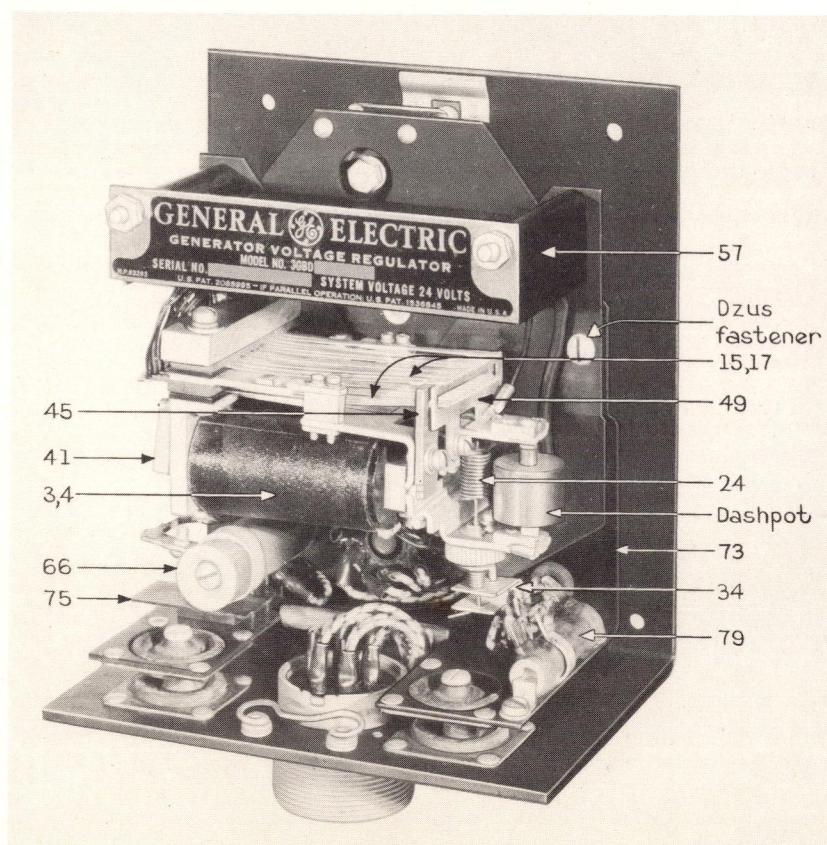
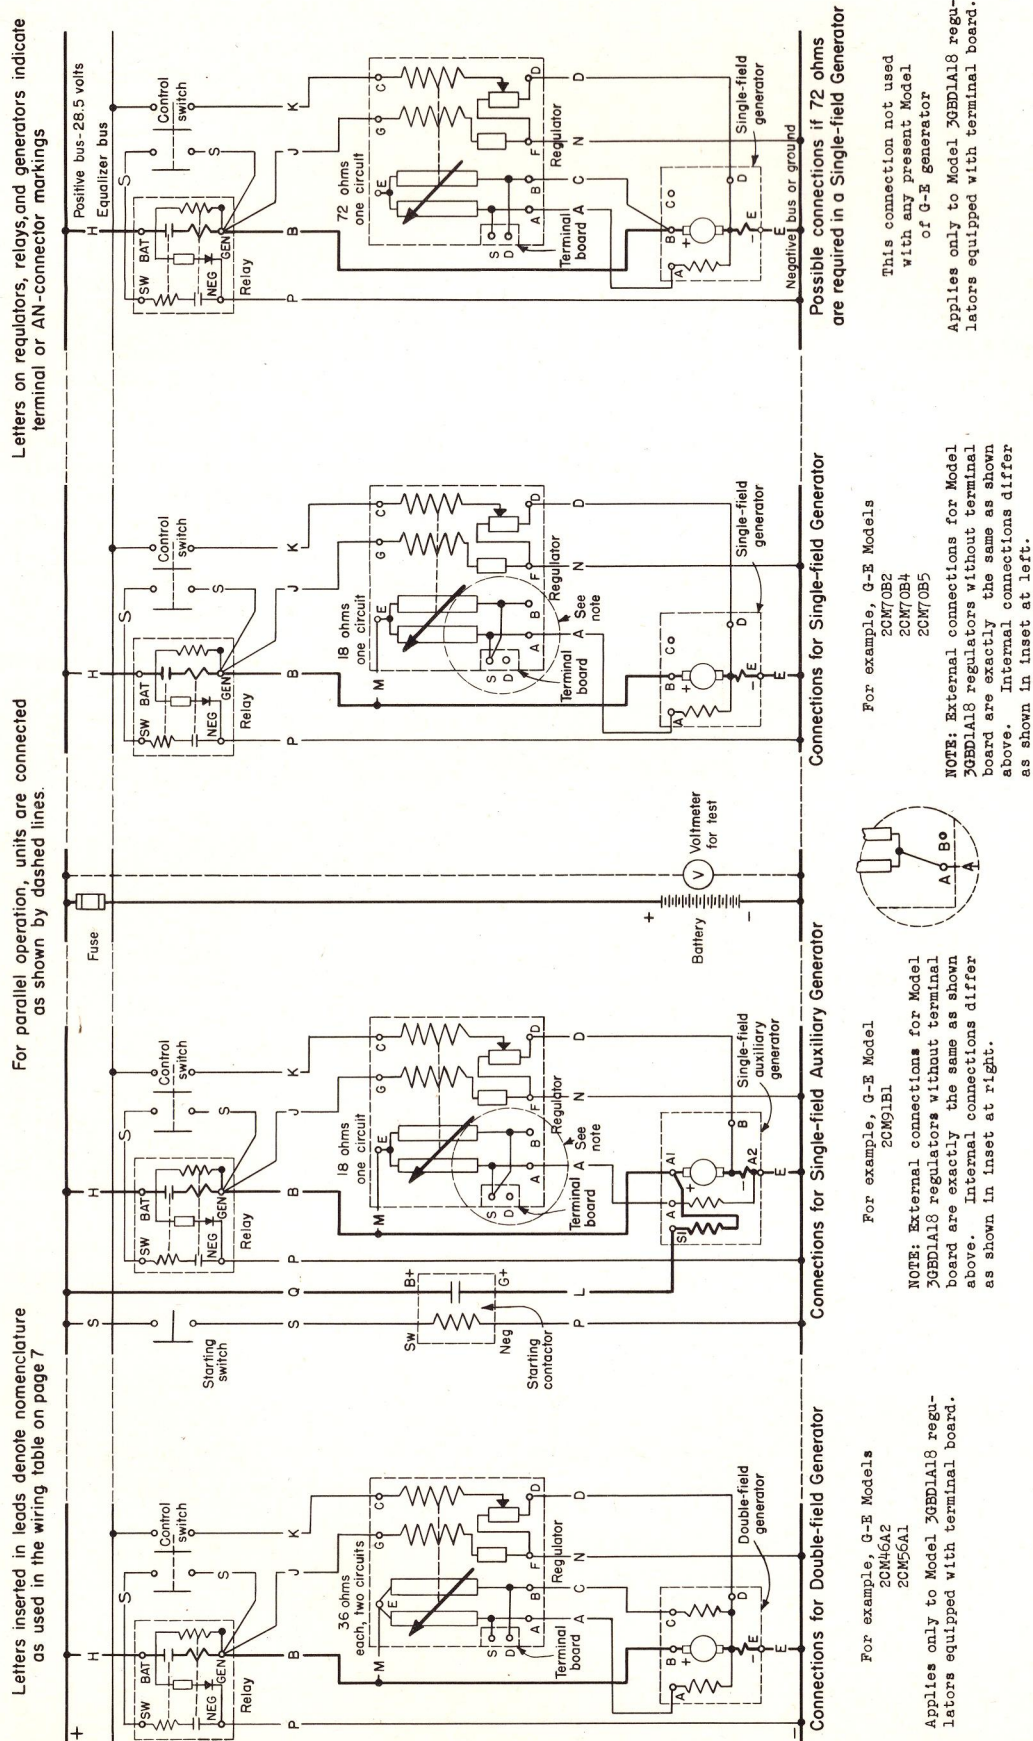
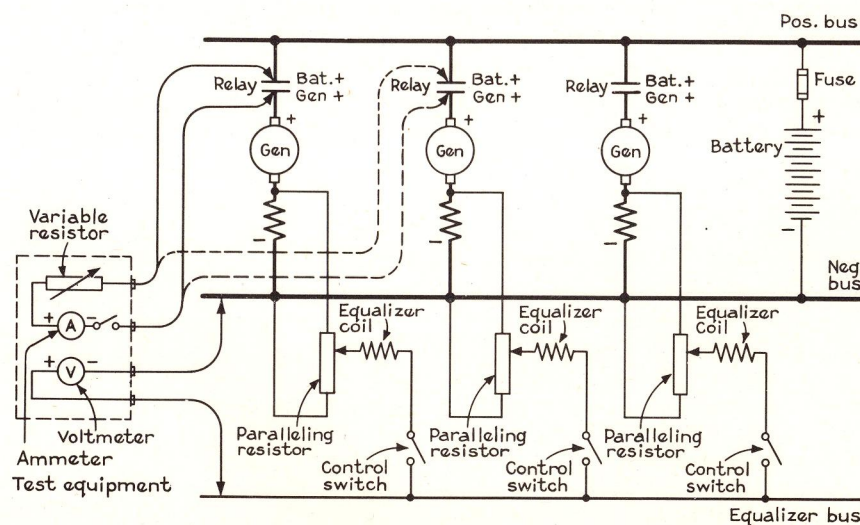

Fig. 2. Generator-voltage regulator, Model 3GBD1A18, cover removed
Fig. 4. Typical external connections of Model 3GBD1A18 regulators
Fig. 5. Setting of paralleling resistors
NOTE: At the present time, there are two variations of Model 3GBD1A18 regulator in the field, which may be distinguished from one another by the presence or absence of the terminal board (Fig. 2: Ref. 75). The original model, equipped with the terminal board, is the regulator pictured in Fig. 2. More recent models have omitted the terminal board and various wires, insulating tubings, and terminals originally associated with it. The assembly of the crash stud has also been changed and a wing-nut Dzus fastener has been substituted for the original screwdriver type Dzus fastener shown in Fig. 2. These variations are noted essentially in the external connection diagram, Fig. 4, the internal connection diagrams, Fig. 8, the assembly diagram, Fig. 11, and the Parts Catalog. It will be seen that the removal of the terminal board prohibits the use of more recent Model 3GBD1A18 regulators with double-field generators. However, the original Model 3GBD1A18 regulators, which are equipped with the terminal board, may be used with either double-field (5-amp) or single-field (8-amp) generators as described later in this handbook.
Voltage control is achieved by the use of a series of resistance steps in the regulating resistor (Fig. 2: Ref. 57) which are introduced into or shorted out from the generator-field circuit (or circuits) by a set of 24 contact fingers (15, 17) and a silver contact bar (49). These contact fingers are operated by an armature (41) in the magnetic circuit, which is energized by a pair of coils (3, 4) connected, through an adjustable resistor (66), across the voltage to be regulated. A bimetal temperature compensator (34) functions to compensate for changes in voltage due to ambient temperature variations of from -40 to +50 C.
The regulating resistor (57) in the regulator is arranged in two 36-ohm sections. Model 3GBD1A18 regulators which are equipped with the terminal board (75) are wired so that, by changing a terminal on the terminal board (75), it is possible to use the regulator on either double-field (5-amp) or single-field (8-amp) generators without any change in external wiring. In the case of the single-field connection, the two resistance sections are connected in parallel, with a total of 18 ohms. It is also possible to obtain 72 ohms in a single circuit, by making the proper changes in the external wiring. (See Fig. 4.)
The regulator has a detachable regulator unit. By releasing the two Dzus fasteners (Fig. 2), the regulator unit can be removed from the sub-base (73) without disturbing the remaining portion of the regulator. In a majority of cases, only this removable portion will need to be replaced. This can easily be done without removing the paralleling resistors and their connections from the circuit, avoiding the necessity of resetting the paralleling resistors when a new regulator unit is installed. This is true only if neither the airplane wiring nor the generators are changed.
After mounting, connections should be made as per the wiring diagram for the particular installation under consideration. Fig. 5 is a schematic diagram showing connections of the regulator with various types of generators. Particular attention should be given to make sure that polarities are as indicated. If the regulator is equipped with a terminal board (Fig. 2: Ref. 75), be sure that the terminal B on the terminal board is in the right position for the generator being used. In general, for single-field generators connect B to S; for double-field generators connect B to D.
The lead resistances should be as follows (see Fig. 4).
Referring to Fig. 5, proceed as follows:
2. Set the slider on the paralleling resistor (79) in the regulator of this first generator at approximately 3/4 of the way from the end connected to terminal F of the regulator. (This is the back end of the resistor.)
3. Connect test equipment (consisting of the variable resistor,) switch and ammeter in series across terminals BAT and GEN of the relay associated with the generator and regulator being set, as shown in Fig. 5. Also connect the voltmeter as shown.
5. Open the control switch of this generator and close the one on the next generator to be set. Connect the test current leads to the relay of this generator as shown in dashed lines in Fig. 5.
6. With a current of 10 per cent of rating of this generator, adjust the slider on the paralleling resistor (79) until the voltmeter reading is the same as the voltmeter reading recorded in step 4.
240 hours: Examine the contact surfaces of the silver contact bar (Fig. 2: Ref. 49). If the bar is pitted or burned, remove it from the regulator. Place it in a suitable filing fixture and dress up the contact edges, being careful to maintain constant the spacing between edges. Reassemble the bar on the regulator and adjust it to meet the requirements given in the following section. When proper adjustment can no longer be obtained after dressing up the contact bar, a new bar should be installed.
Connect the regulator as shown in Fig. 4.
Bring the generator to a regulating speed and adjust the voltage-adjusting spring until the regulated voltage is approximately 28.5 volts, as measured by a voltmeter (see Fig. 4: V) connected across the bus. Make sure that voltage regulator is regulating while this adjustment is being made.